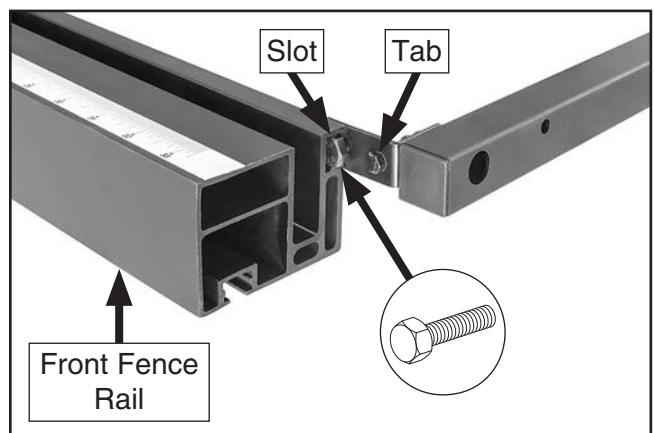

Figure 31. Attaching front end of fence rail brace.
- 30.** Insert M8-1.25 x 16 hex bolt into front end of fence rail brace, then slide hex head and tab of brace into slot in front fence rail (see **Figure 31**). Tighten cap screw and hex nut on rear end of fence rail brace.